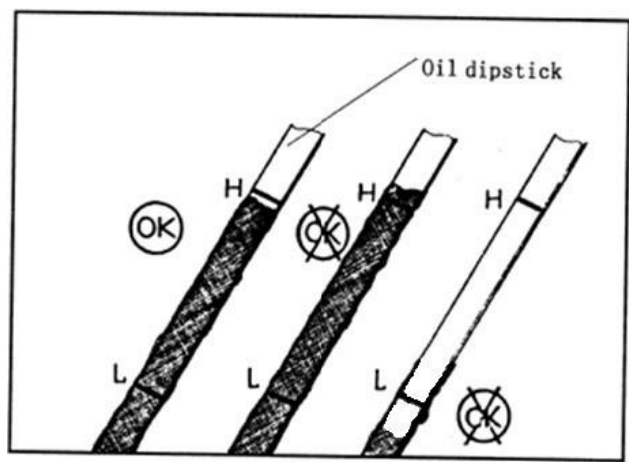

Figure 6. Engine Oil Dipstick
- Check oil level. (Refer to figure 6.)